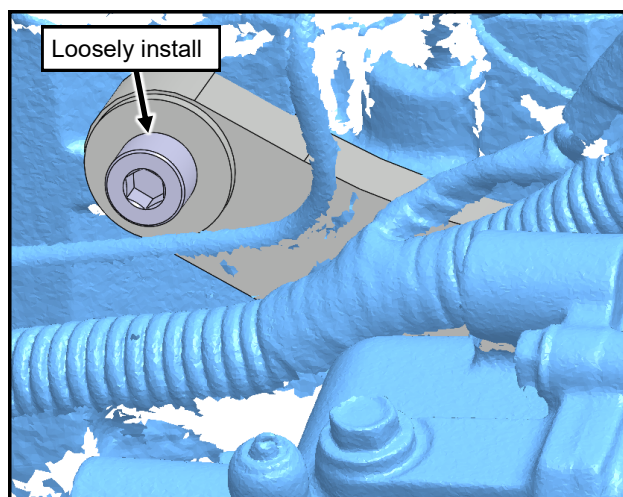

Fig. 1.38 (Loosely install M8x1.25 x 25 socket head screw)
- 1.38 With a fender washer and supplied red Loctite, loosely thread in an M8x1.25 x 18 socket head screw into the hole shown in Figure 1.38.